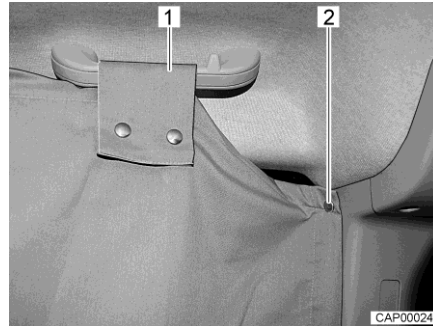

Fig. 16 Cabin black-out shade on side pane
- Fasten cabin black-out shade on one side of the driver's cabin. In order to do this, fasten two snap fasteners (Fig. 16,2) behind the side pane, on the B column.
- Guide loop (Fig. 16,1) over the handle above the side pane and fasten with snap fasteners.